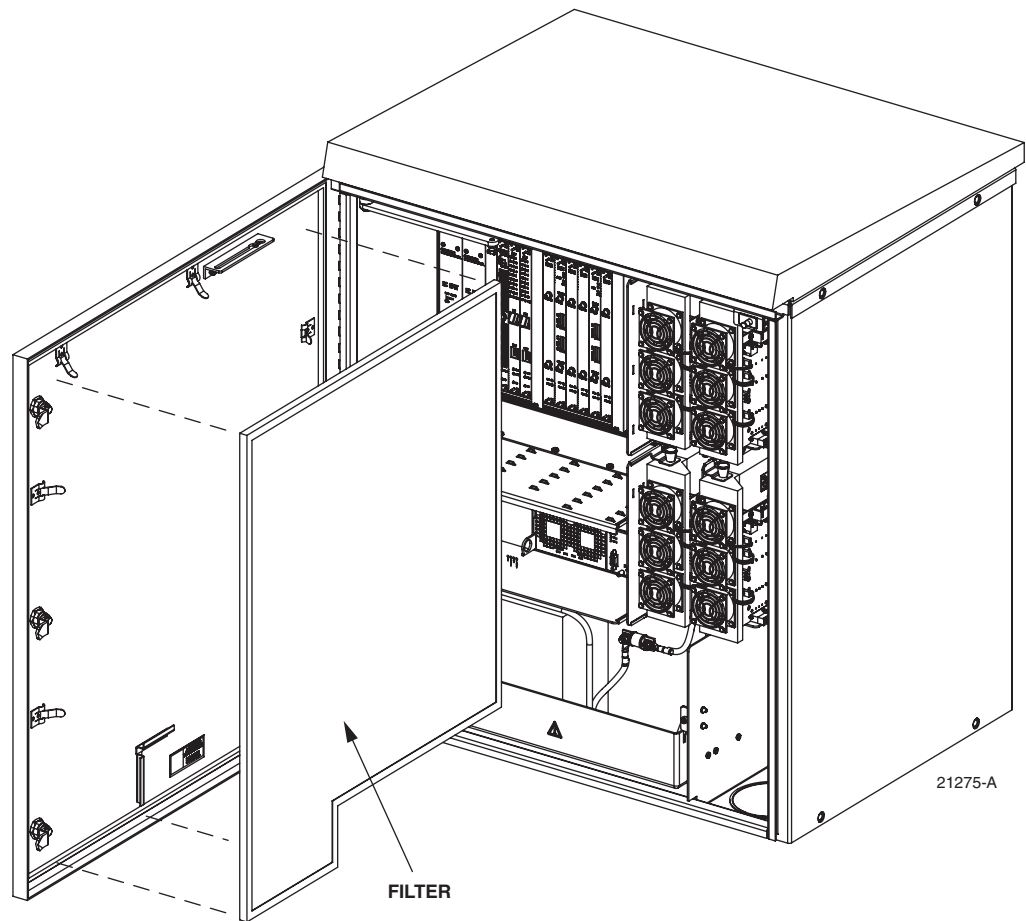

Figure 49. Air Inlet Filter Tray
1. Open the RAN enclosure door and remove the inlet air filter tray door as shown in Figure 49.